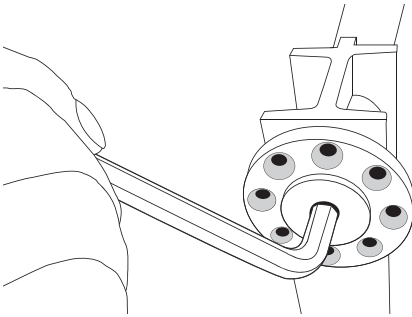

FIGURE 12
2. Tighten both adjustment plates by 1 or 2 holes (Fig. 12).